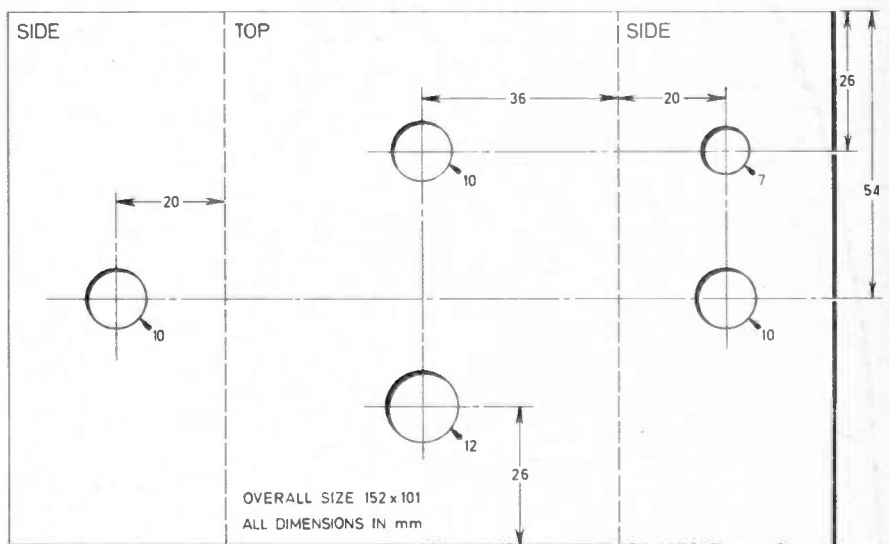

Fig. 2. Drilling information for the case showing the positioning of the five holes.
1. Drill the five holes in the case, following the dimensions given in Fig. 2 as closely as possible.